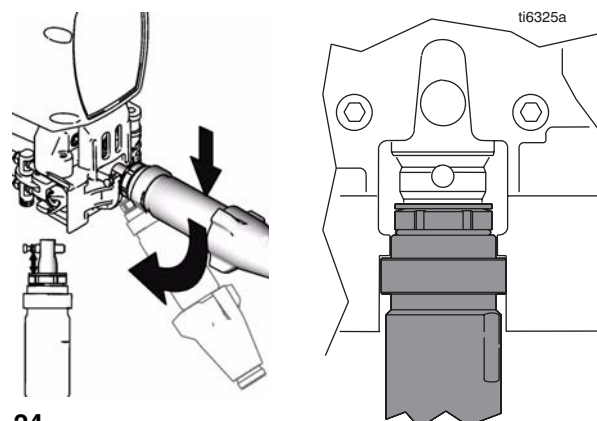

FIG. 24
- 1. FIG. 24. Adjust piston rod with pin holder to pull out piston rod. Tap piston rod on hard surface to push in piston rod.